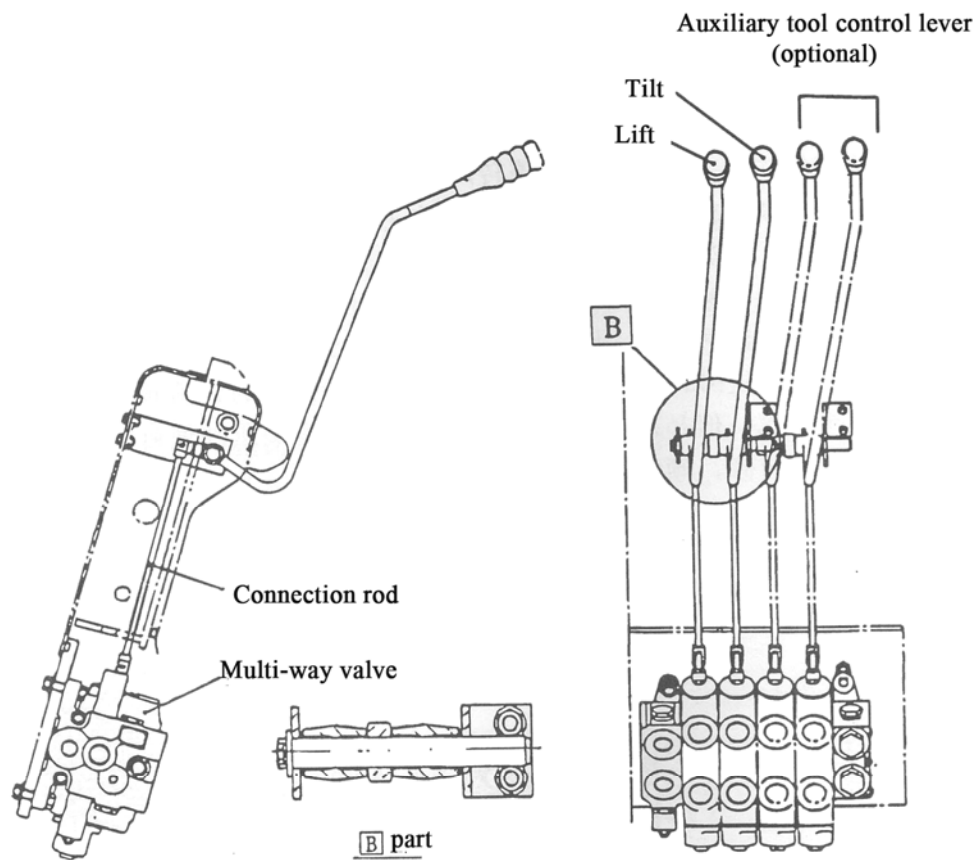

Fig 7.11 Control Device of Multi-Way Valve
7.7 Control device of multi-way valve (see Fig 7.11)